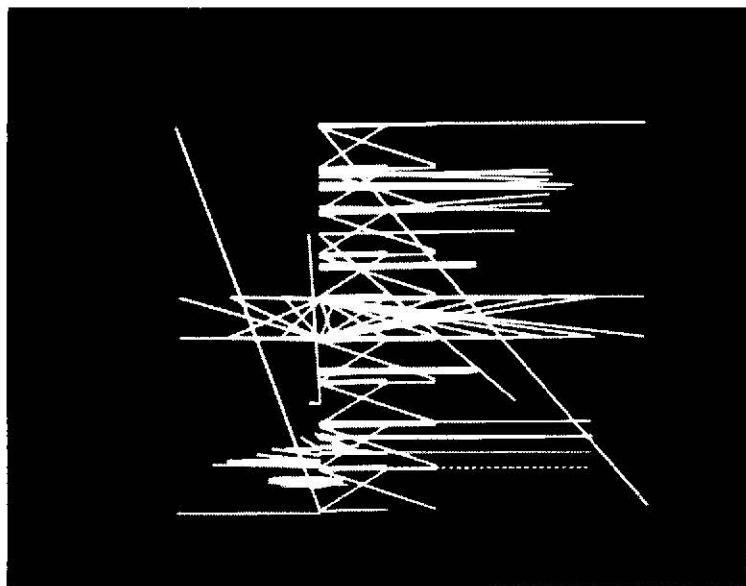

Figure 4-4. 1345A Not Operating Properly
- e. If display on screen appears as shown in figure 4-4, or if no pattern can be obtained, refer to Section 8, Service and Troubleshooting.